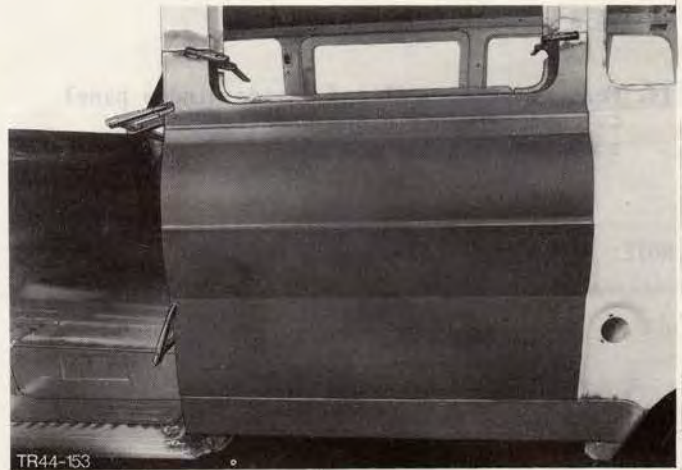

Fig.156. Secure new side panel with clamps.
19. Position new side panel and secure with clamps and cramps, Fig.156.